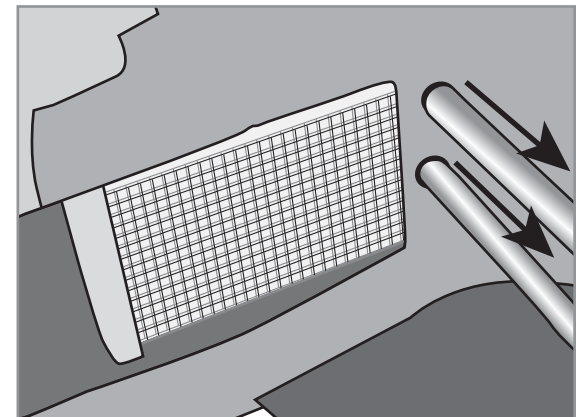

FIGURE 8
**Drain coolant from radiator.** Remove the heater hoses from heater coil and firewall (see Figure 8).